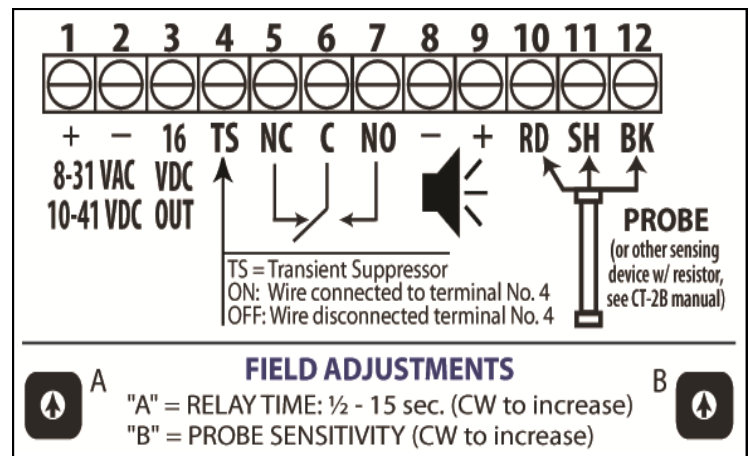

Figure 1
See Figure 1. The control unit operates on 8-31 VAC or 10-41 VDC (version 4). Hook up the 12 VAC transformer as shown in Figure 1. Built-in battery chargers do not come with this system. If battery backup is desired, any 12 VDC power pack can be used. Hook up as shown for 12 VDC operation. Any 12 VDC power source may be used.
See Figure 1 on page 1. The TRIP-TEST button, located center right on the circuit board, is a tool to evaluate most of the control electronics and to help in setting the relay time.
See Figure 1 on page 1. This function controls the amount of time the customer desires the sounder(s) to stay on. It may be adjusted to stay on anywhere from 1/2 to 15 seconds. To adjust, use the potentiometer "A" (CW to increase time). Push the trip-test button to hear your adjustment. Keep adjusting until the desired time is achieved.
See Figure 1 on page 1. Probe sensitivity is set at the factory and does not usually need to be adjusted. Factory setting allows a single standard probe to cover a 12 foot wide driveway when installed beside it (see "Installing CT-6 Probe and Cable" on page 4). Increasing the sensitivity above the factory setting is not recommended unless the probe is located in a low sensitivity area.
See Figure 1 on page 1. The annunciator relay has a second set of free SPDT contacts that connect to terminals No. 5, 6, and 7. The contacts may be used to trip a dialer, alarm panel, home automation panel, and transmitter, etc.
See Figure 1 on page 1. The CT-2BG control unit can be used to trigger a gate operator by using the free set of relay contacts #6 (Common) and #7 (Normally Open). These contacts should be
In addition to tripping the gate operator, the CT-2BG can be used to trip a sounder inside the home. Run a wire to the gate operator from the home and use the extra set of relay contacts (terminals 8 and 9, see Figure 1 on page 1) to trip the sounder inside the home. For more information, contact technical support by calling (800) 878-7829.
See Figure 1 on page 1.
See Figure 1 on page 1. At the control unit, hook up the RED probe wire to terminal No. 10; connect SHIELD (Drain) wire to terminal No. 11; connect the BLACK wire to terminal No. 12.